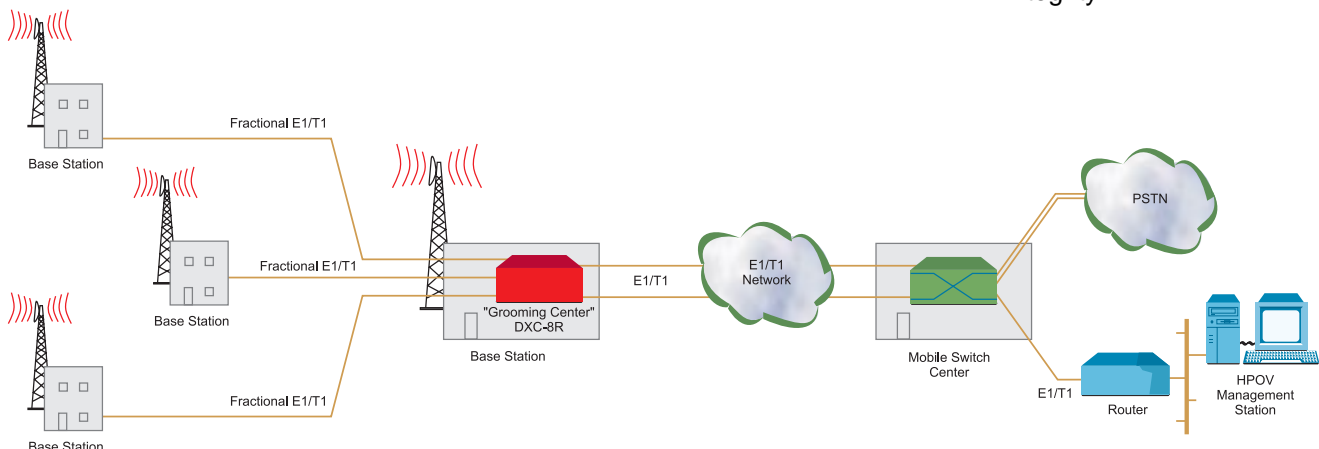

Figure 2. Bandwidth Optimization in a GSM Network using DXC-8R
- Concentrating multiple T1/E1 lines from a cellular base station (BTS) onto a full E1 link to the mobile switch center (MSC)(see *Figure 2*).